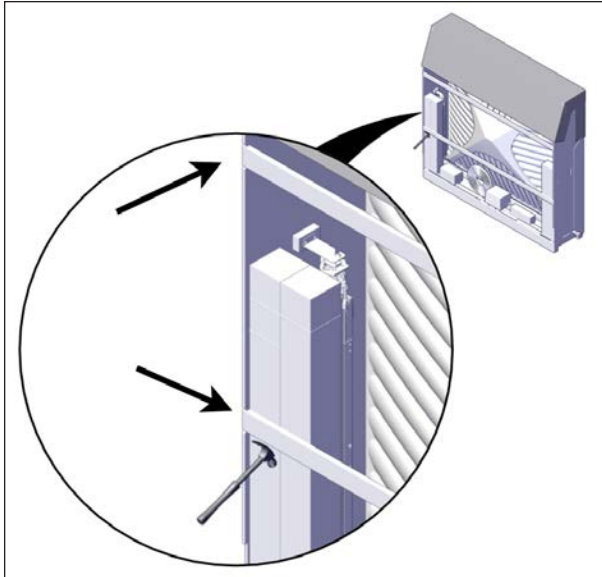

FIGURE 19: REMOVE CARDBOARD AND STRIPS
3. Hammer off the wood furring strips by hitting on the inside of the side panels see Figure 19.